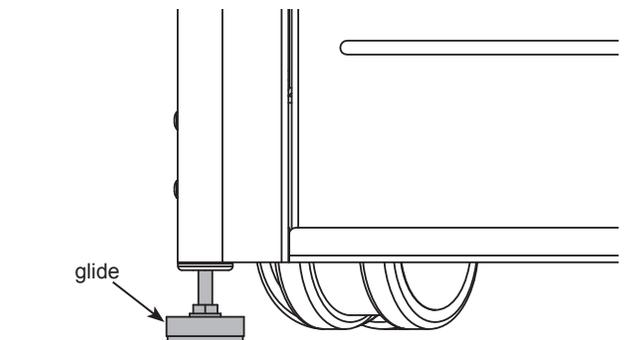

Figure 2
- For stationary use, unscrew the glides until the casters no longer touch the floor. **Figure 2.** Make sure all 4 glides are unscrewed the same length.